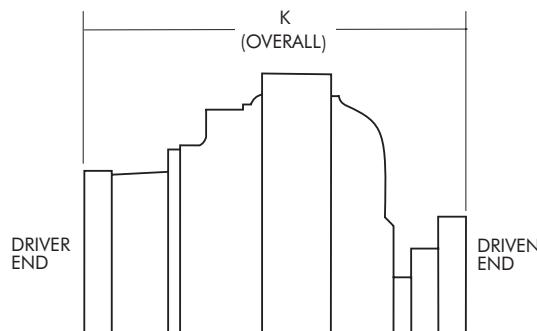

Figure 3
- Mount the fluid coupling as shown in Figures 3 & 5, the output adapter side of the coupling must be connected to the driven equipment. Attaching the output adapter side of the fluid coupling to the driver (usually a motor) will result in degraded performance, or in some cases inadequate performance.
- Determine required distance between shaft ends (BE) by accurately measuring distance "K" as shown in Figure 3 and adding to that value the appropriate addition: Type G, Sizes 1010, 1025 and 1030 add .060" (1.52 mm); Sizes 1015 and 1020 add .020" (0.501 mm); Sizes 1035 and 1040 add .120" (3.05 mm); Sizes 1045 and 1050 add .180" (4.57 mm).